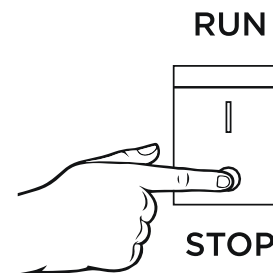

Figure 10 - Engine Control Switch to - STOP
3. Position the engine control switch to **STOP** (see figure 10).